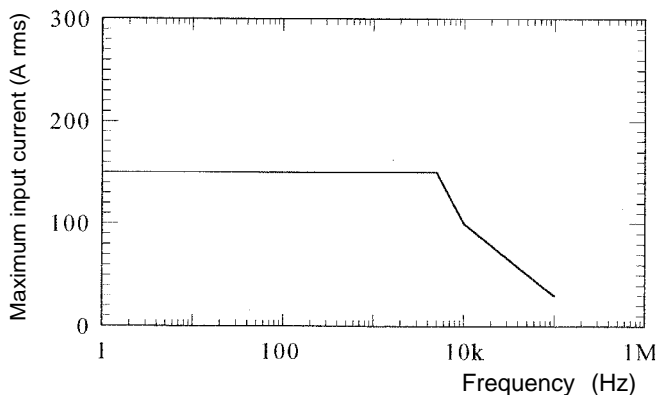

Figure 17 9276 Maximum Input Range
- ◆ Continuous maximum input range 150 A (see Figure 17)